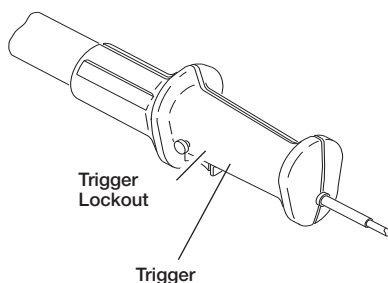

Figure 20 - Pole Saw Handle with Trigger Lockout
4. When ready to make a cut, press in trigger lockout and squeeze trigger (see Figure 20). This will turn pole saw on. Releasing trigger will turn pole saw off. Make sure saw is running at full speed before starting a cut.